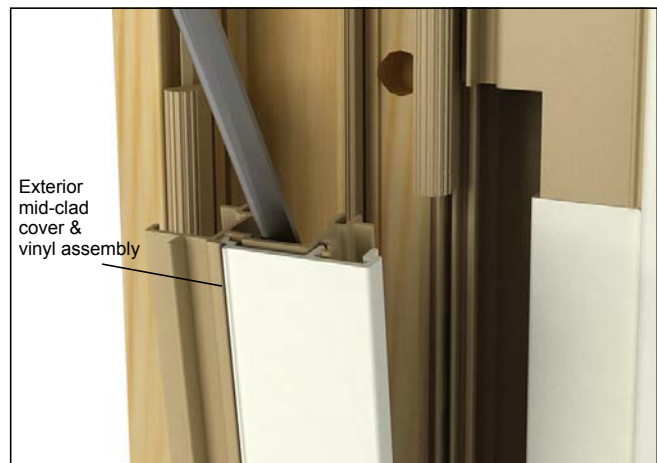

Figure 4
3. Remove exterior mid-clad cover and vinyl assembly for access to installation holes. Use stiff putty knife or small flathead screwdriver to carefully remove the covers. See figure 4.